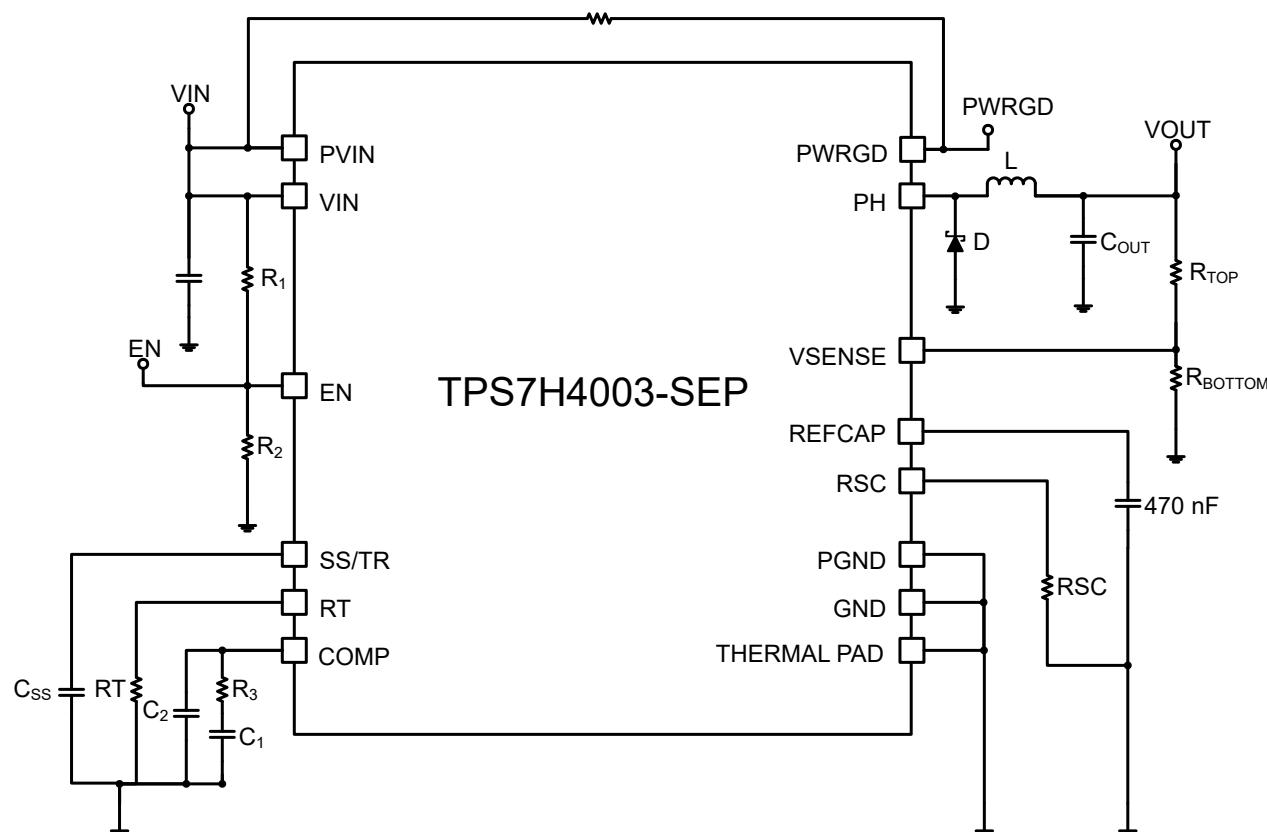

图 8-1. Typical Application Schematic
图 8-1 shows a Schottky diode between the phase node pin (PH) and GND of the TPS7H4003-SEP. This external diode is in parallel with the internal low-side power FET of the device and typically has superior reverse recovery characteristics when compared to the body diode of the internal low-side FET. This improved reverse recovery provides two key benefits. The first benefit is an better overall efficiency for the converter due to lower losses associated with the diode reverse recovery. The second key advantage is that the parasitic-induced noise associated with the reverse recovery current pulse (as detailed in Figure 5 of Power Loss Calculation With Common Source Inductance Consideration for Synchronous Buck Converters) is drastically reduced. In the absence of the Schottky diode, this noise can manifest itself on the power ground plane internal to the TPS7H4003-SEP. If significant enough, the noise can reduce the dynamic range of the error amplifier and result in higher output voltage ripple. For this reason, it is highly recommended to use the external Schottky diode in the converter design. At the least, a PCB footprint for the diode should be included in the PCB design phase in case it is needed to achieve the system requirements.